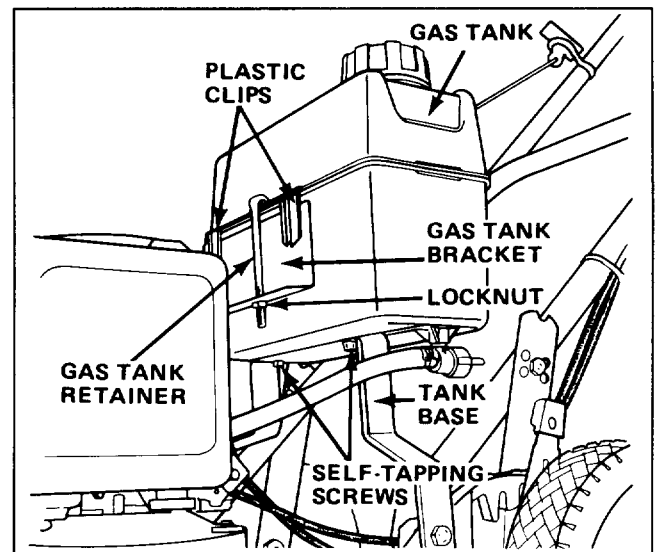

Figure 3
1. Hook the plastic clips on the rear of the gas tank onto the gas tank bracket (Fig. 3).
2. Secure gas tank to tank base with (2) self-tapping screws (Fig. 3). Do not overtighten screws.
3. Hook gas tank retainer onto gas tank and slide end of retainer into hole in tank bracket. Secure retainer to tank bracket with locknut (Fig. 3). Do not overtighten.